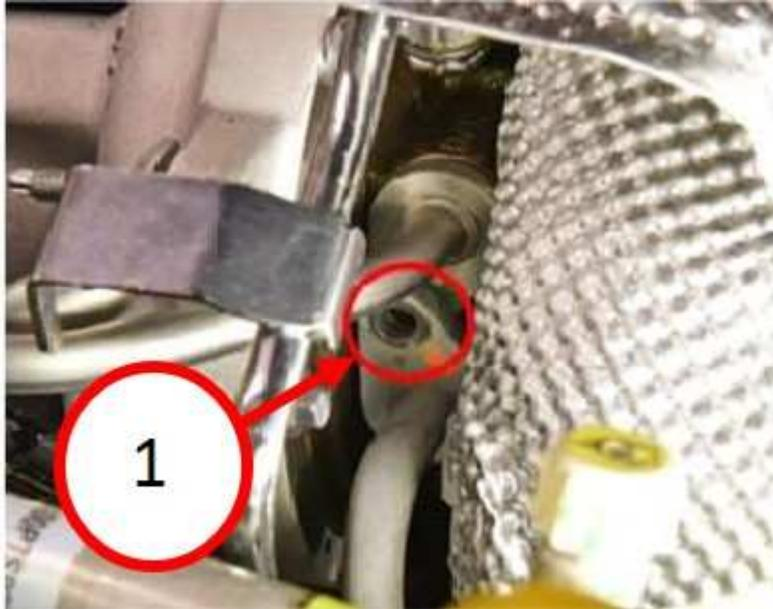

Fig. 1
1. **Remove the coolant inlet tube (lower position) to allow the outlet tube (upper position) to be removed from the turbo. A black O-ring on the Outlet tube needs to be replaced with an orange O-ring (Fig. 1) .** Refer to the detailed service procedures available in DealerCONNECT> TechCONNECT under: 09 - Engine, 2.0L/Turbocharger System/Lines, Tubes and Hoses, Turbocharger, Oil and Coolant/Removal.